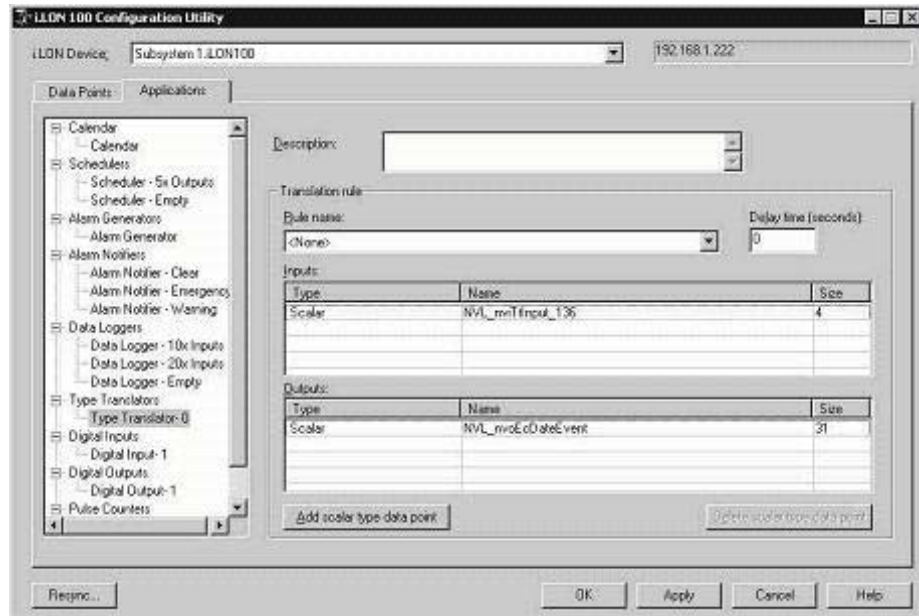

Figure 11.1 Type Translator Tab
7. Enter the IP address of the *iLON 100* and then click **OK**. The *iLON 100 Configuration Plug-in* options with the **Type Translator** tab selected, as shown in Figure 11.1.